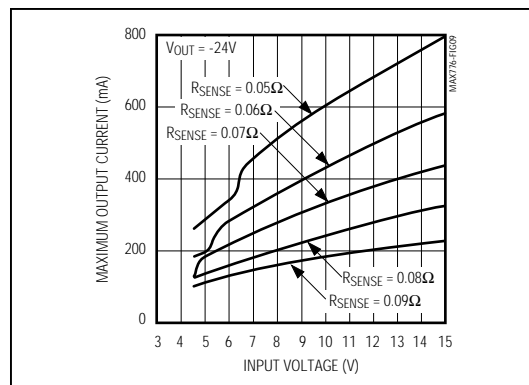

Figure 9. MAX774/MAX775/MAX776 Maximum Output Current vs. Input Voltage ($V_{OUT} = -24V$)
- 2) Next, referring to Figure 9, find the curve with the lowest current limit whose output current (with the lowest input voltage) meets your requirements.
The $R_{SENSE} = 80m\Omega$ (shown in Figure 9) shows only approximately 125mA of output current with a 4V input, so we look next at the $R_{SENSE} = 70m\Omega$ line. It shows $I_{OUT} >150mA$ for $V_+ = 4V$ and $V_{OUT} = -24V$. The current limit will be $0.210V / 0.070\Omega = 3A$. These curves take into account worst-case inductor ($\pm 10\%$) and current-sense trip levels, but not sense-resistor tolerance. The switch on resistance is $70m\Omega$.